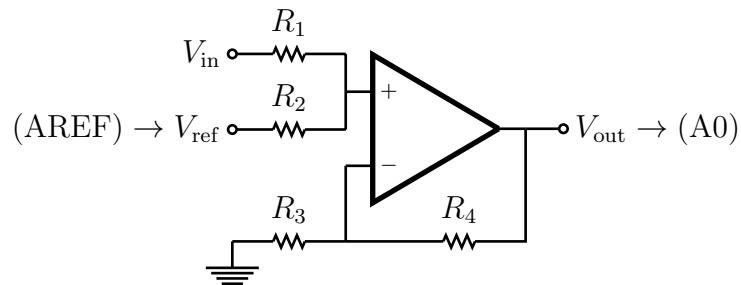

Figure 4: A DC level-shifter with unit gain. The points (AREF) and (A0) refer to the Arduino pins, which should be connected as shown.
The low-pass filter in Fig. 3 is used to convert PWM output (on pin 5 of the Arduino) into a DC reference voltage  $V_{\text{ref}}$ . This reference voltage is used as (1) the reference for the ADC, at pin AREF, setting the dynamic range of the ADC, and (2) the reference to the DC level shifter circuit in Fig. 4 so that input to the ADC is referenced to  $V_{\text{ref}}/2$ . In this way, we can adjust  $V_{\text{ref}}$  to match the dynamic range of our signal, and the DC offset will be set to the middle of this range. This will ensure that even for small signals, the full 8-bit precision of the ADC is being put to use.